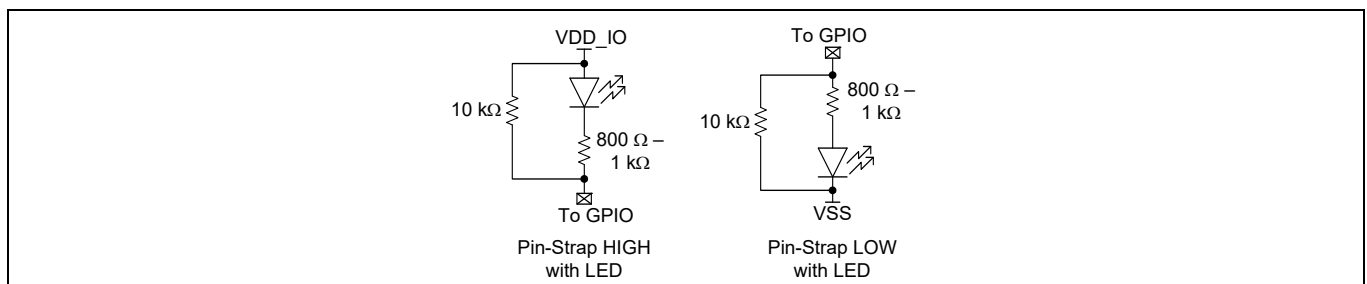
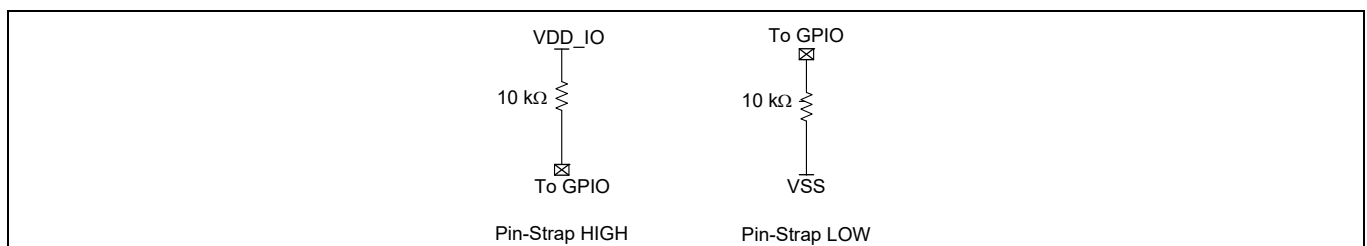

Figure 17 Pin-strap with LED or LED-only connection
Figure 18 Pin-strap connection
The pin-straps are supported for select product options (see Table 1) to provide reconfigurability without an additional EEPROM. The pin-strap configuration is enabled by pulling Pin #B9 HIGH. Table 6 shows the configuration options supported through pin-straps and the GPIOs used for this purpose. Figure 17 and Figure 18 show how the GPIOs need to be connected if pin-strap and LED connection are required or only pin-strap is required.
- 10. See Figure 17 and Figure 18.